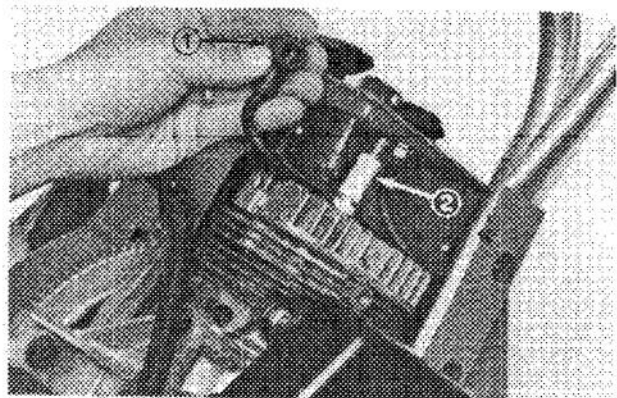

Figure 22
5. Pull high tension wire off spark plug and remove plug from cylinder head (Fig. 22).
7. Push high tension wire onto spark plug (Fig. 22).